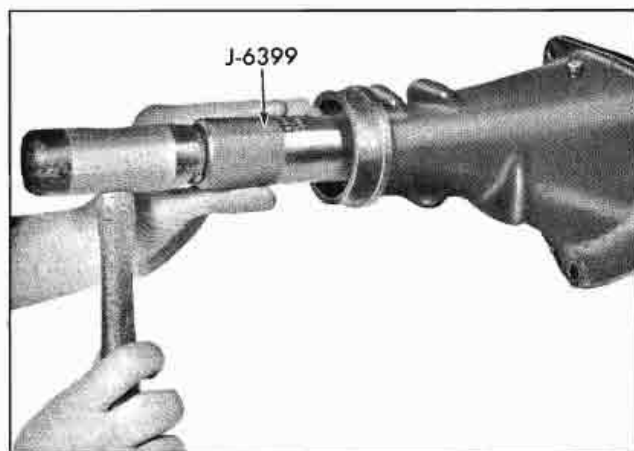

Fig. 7-44 Removing or Installing Bushing with J-6399
2. Using tool J-6399, drive bushing, from rear, into case extension (Fig. 7-44).
1. Using tool J-6399, drive bushing, from rear of transmission, until end of bushing is slightly below counterbore for oil seal (Fig. 7-44).